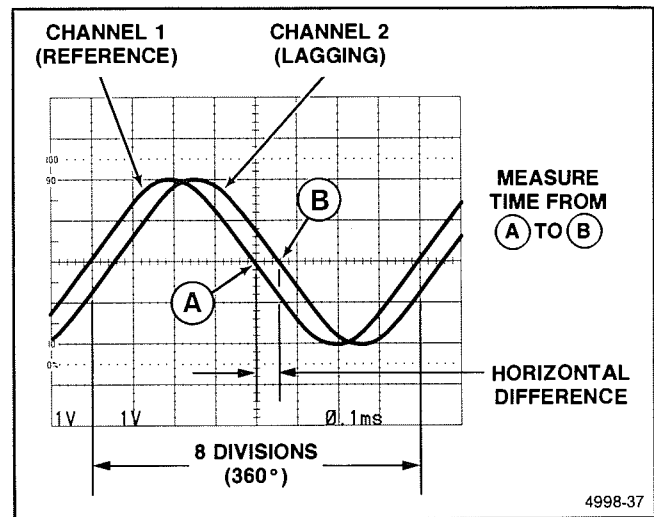
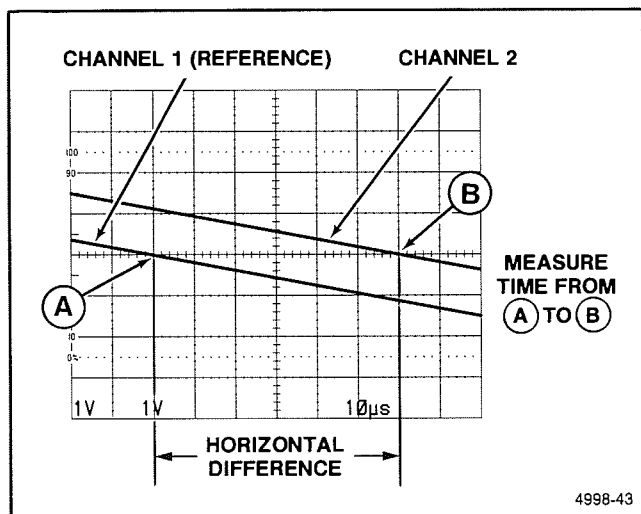

Figure 6-24. Phase difference.
Figure 6-25. High-resolution phase difference.
9. Position the displays and adjust the SEC/DIV Variable control so that one reference-signal cycle occupies exactly eight horizontal graticule divisions at the 50% rise-time points (see Figure 6-24). Each division of the graticule now represents 45° of the cycle ($360^\circ \div 8$ divisions), and the horizontal graticule calibration can be stated as 45° per division.
EXAMPLE: The horizontal difference is 0.6 division with a graticule calibration of 45° per division as shown in Figure 6-24.
EXAMPLE: If the sweep speed were increased 10 times with the magnifier (X10 Magnifier out), the magnified horizontal graticule calibration would be $45^\circ/\text{division}$ divided by 10 (or $4.5^\circ/\text{division}$). Figure 6-25 shows the same signals illustrated in Figure 6-24, but magnifying the displays results in a horizontal difference of 6 divisions between the two signals.